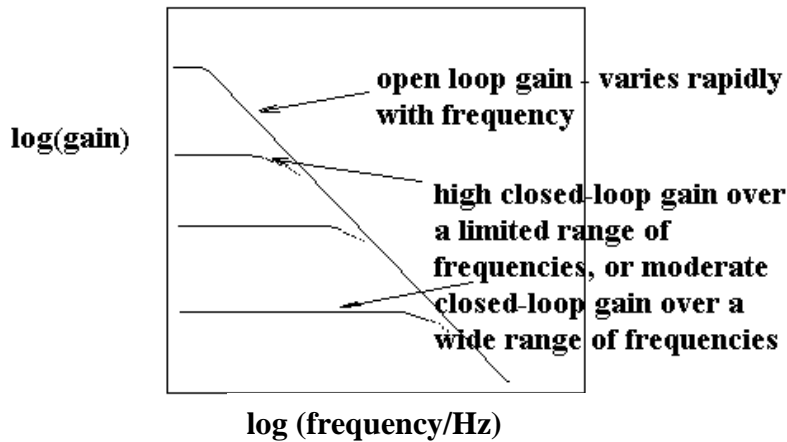

Figure 10. Open and closed loop gains against frequency for various feedback fractions
As the frequency is increased, there will be a point where this condition is no longer met, and $G(f)\beta \approx 1$. The gain will then fall in accordance with equation (3). At higher frequencies still, where $G(f)\beta \ll 1$, G approximates to the open loop gain and will follow the same envelope as the open loop circuit (see Figure 10). The range of frequencies over which the amplifier gain is constant is known as the *bandwidth*.
It can be seen from figure 10 that there is a “trade-off” between the value of G_{lf} and the range of frequencies over which it will remain constant. The higher the value of G_{lf} that we want, the smaller the bandwidth. In practice G_{lf} is usually chosen to have a value in the range 1 – 1000. When $G_{lf} \sim 1$ the op-amp acts as a *buffer* or *power amplifier*, in that it provides only a small amount of voltage gain, but is capable of supplying a relatively large current into a medium-resistance load. At high values of G_{lf} op-amp circuits tend to be rather unstable and sensitive to noise.